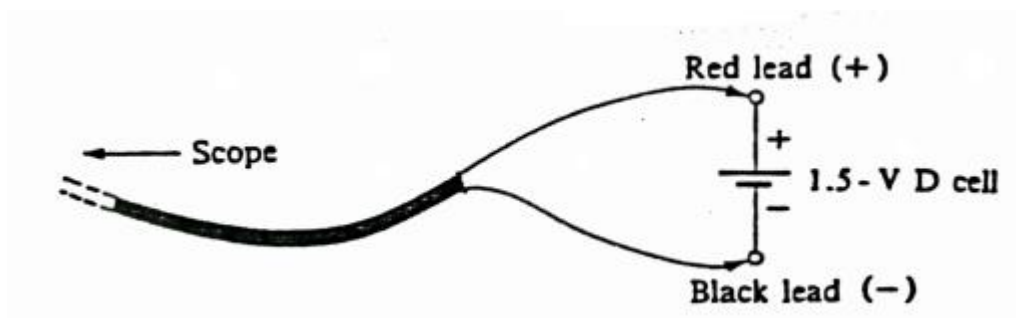

FIG 6.5
- Once the zero-volt level is established, move the DC/AC/Gnd switch to the de position and set the vertical sensitivity to 1V/cm and connect one channel of the scope across the 1.5-V battery as shown in Fig 6.5.